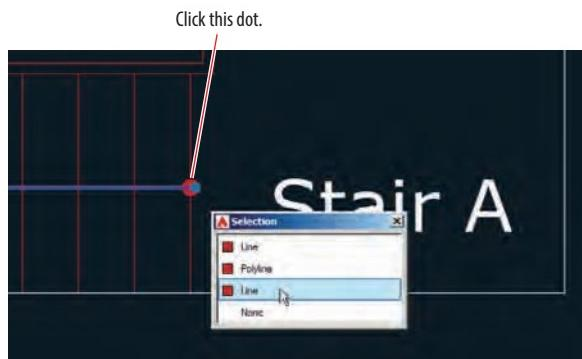

FIGURE 4.8 Selection cycling
9. Click the dot at the end of the stair direction line (shown in Figure 4.8). This dot is at the confluence of the horizontal stair direction line and the vertical tread line. When Selection Cycling is on, you are presented with the Selection dialog box whenever your selection is ambiguous. Hover the cursor over the items in the list, and each one is highlighted in blue on the drawing canvas. Select the line in the list that highlights the stair direction line as shown in Figure 4.8 and then press Esc.